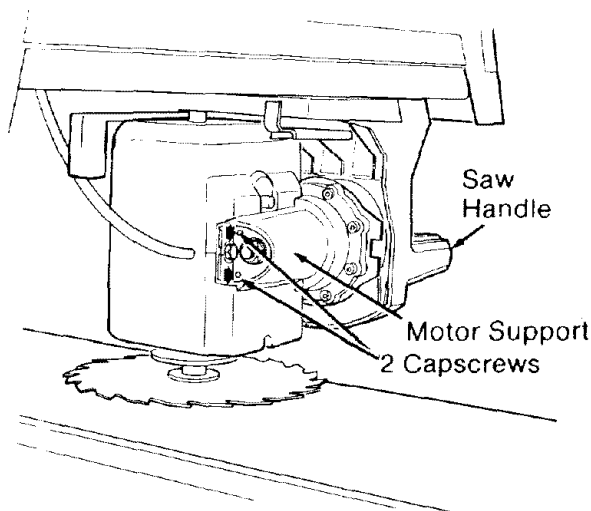

Fig. 96
10. Loosen the two screws on the back of the *motor support* using a 3/16 inch hex-L wrench and pliers if necessary. (Figure 96)